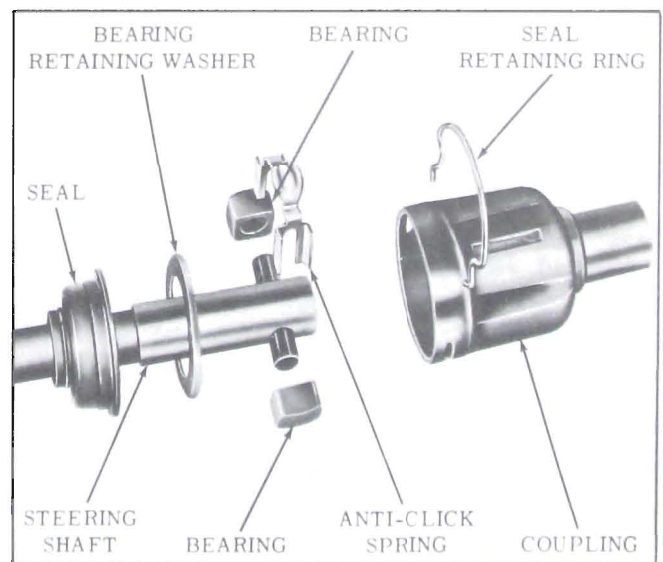

Figure 8-13—Steering Shaft Coupling Assembly
2. Remove coupling seal retainer. See Figure 8-13.